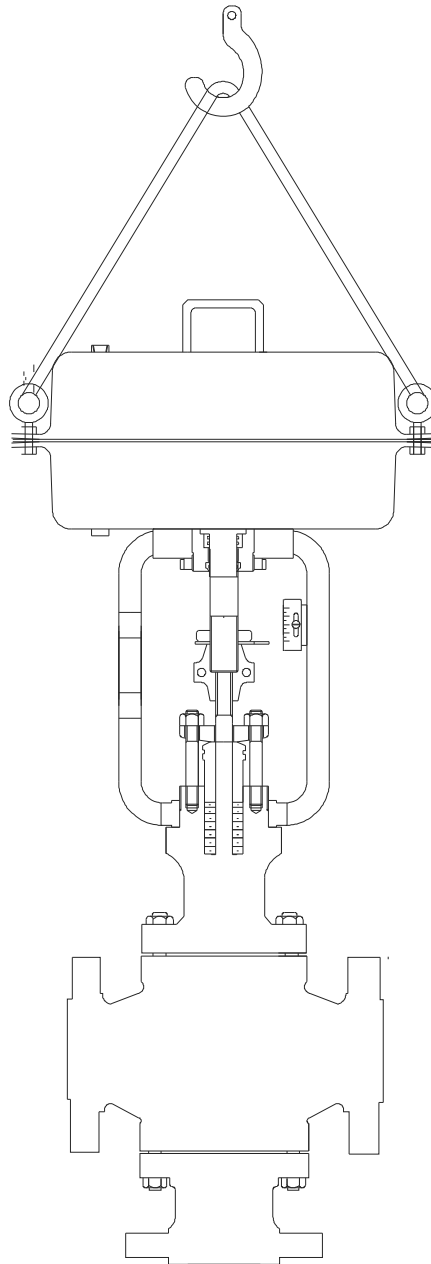

Fig. 1
- Lift the Valve properly as shown in figure 1
or bearer cables as shown in figure 1.